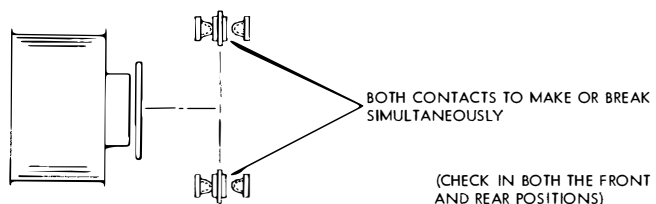

Figure 7-21. Print Transfer Relay Contacts
(14) PRINT TRANSFER RELAY CONTACTS. (See figure 7-21.)—Both paralleled relay contacts should make or break at the same time to prevent double printing, and the contacts should align. To adjust, position contact springs and align contact pile-up.